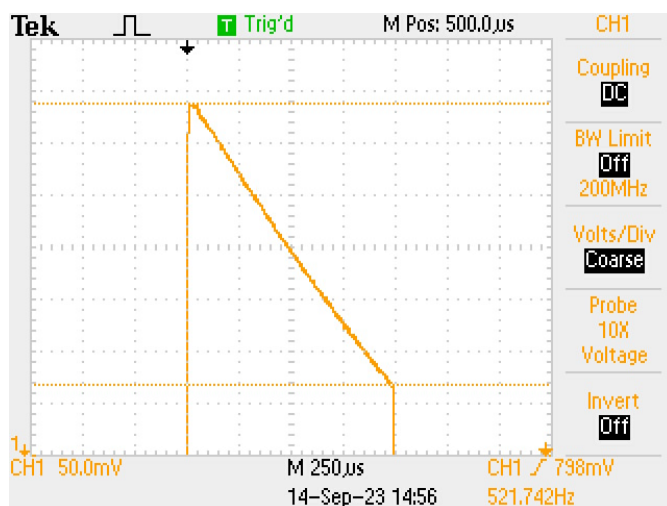

Figure 2.6: Tilt Measurement
- Adjust the horizontal and vertical controls to accurately measure the tilt. See Figure 2.6 *Tilt Measurement*.